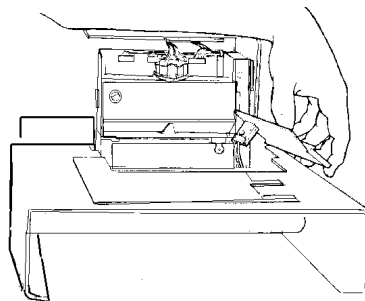

Figure 16. Cover Assembly
- 6.1.7 Hold the document guide out of the way, and slide the cover assembly with document plate forward off the chassis leaving the document guide with the printer mechanism (See Figure 16).